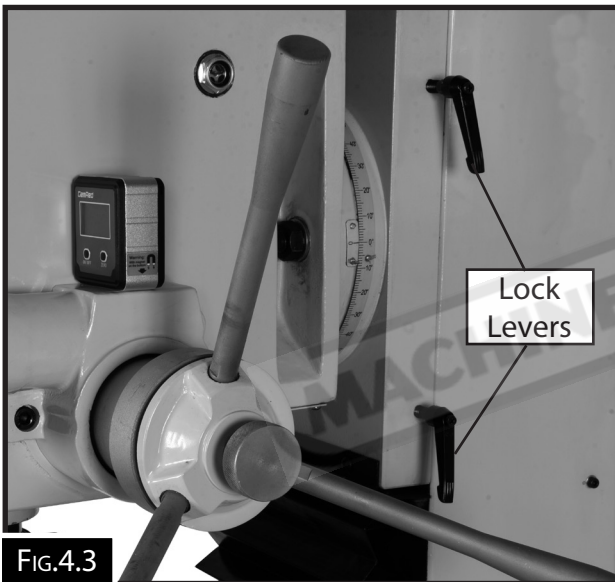

FIG.4.3
2. Loosen both Z-axis lock levers shown in Fig.4.3